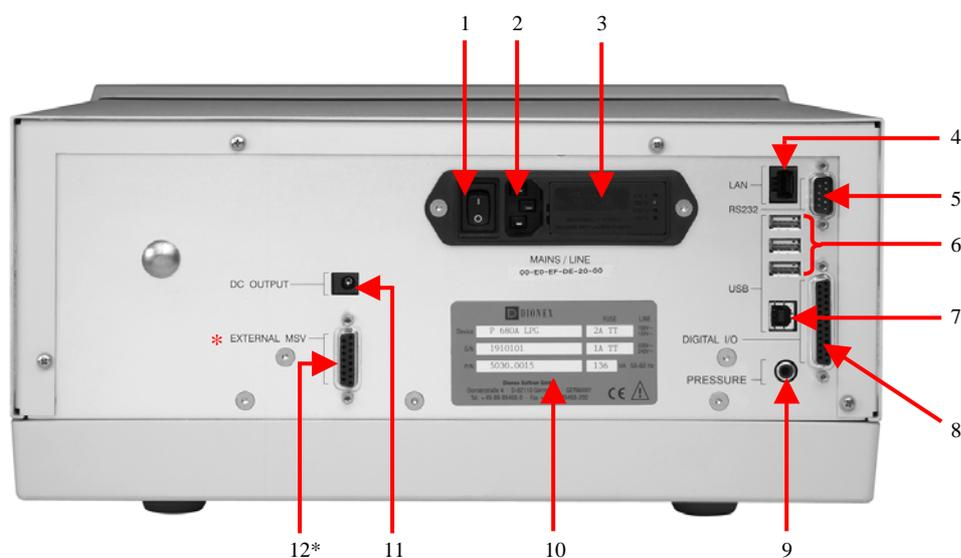

Fig. 9: P680 rear panel
The Chromeleon Chromatography Management System can use either a LAN or USB connection to control the pump. Data is transferred digitally via the appropriate cable (USB cable, part no. 8911.0002; USB extension cable 8911.0004, LAN cable (RJ45 cable for Ethernet hub), part no. 8906.2038). The LAN and USB ports are on the instrument's rear panel (→ Fig. 9).
Connect the pump to the server PC via the USB port (→ Fig. 9, no. 7). To do so, select one of the following alternatives:
The other three USB ports (→ Fig. 9, no. 6) allow the pump to be connected to either one instrument in the Summit HPLC product line or one USB hub each. Additional Summit HPLC instruments can then be connected to the hub.
**Important:** We recommend using these USB ports (→ Fig. 9, No. 6) for connections to Dionex instruments only. Dionex cannot guarantee correct functioning if instruments from other manufacturers are connected.
The digital I/O port on the pump (→ Fig. 9, no. 8) provides a connection to an accessory; for example, an autosampler or a hand-operated valve. The connector supplies the **Start**, **Stop**, and **Hold** digital inputs as well as four relay outputs. The **Operable Out** relay output (relay 3) closes when the HPLC pump is not ready to operate, that is, in case of an error or if the instrument is turned off. The R1, R2, and R4 relays are controlled via a pump program or via Chromeleon. In addition, Chromeleon controls the **Operable Out** relay.
The analog pressure output records the operating pressure of the pump (→ Fig. 9, no. 9). The pressure output is set to 5 mV/bar (50 mV/MPa). You may connect a device such as the UCI-100 Universal Chromatography Interface, a recorder, or an A/D converter, to monitor the pump pressure.
The pump's rear panel provides a port that is labeled either External MSV or Solvent Rack (→ Fig. 9, no. 12). It depends on the text whether you can connect an external motorized switching valve (MSV) or a Solvent Rack. For information about the pinout of the 15-pin D-Sub connector, refer to the Technical Appendix (→ page 149).
The RS-232 port on the pump's rear panel (→ Fig. 9, no. 5) allows the connection of a Dionex ASI-100 autosampler or a Dionex STH585 Column Thermostat. Depending on its connection mode, the pump converts the RS-232 communication to a LAN or USB transfer.